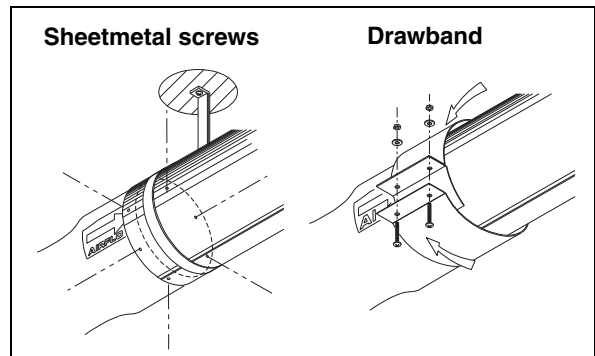

Fig. 5 Valve installation methods. Install valve so that manual adjustment is accessible.
8. Follow the appropriate installation diagram (see Fig. 5). **NOTE:** Screws, fasteners, duct sealant, hanger stock, and drawbands are not provided by Phoenix Controls.